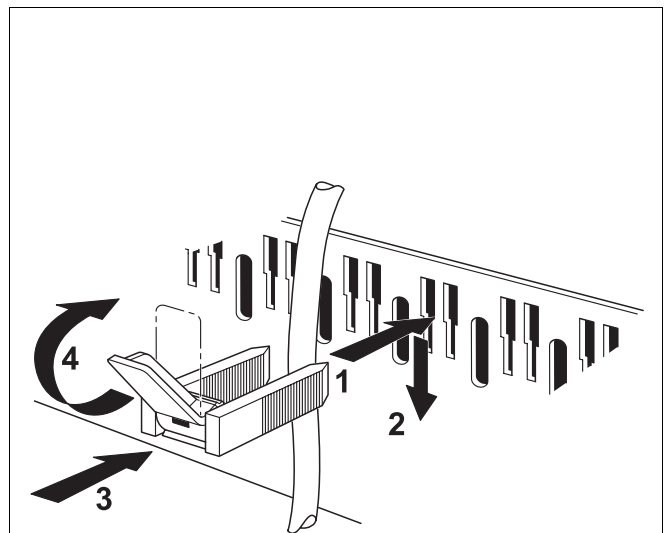

Fig. 18 Installation of the cable clips
If necessary, break or cut out the knock-out from the rear wall of the control panel (Fig. 18).
- Insert cable clips into the clip frame and secure by pivoting the lever (Fig. 18).
- Insert both lower hooks on the right and the left side of the rear wall section into the clip frame, keeping the slot in the upper edge (Fig. 18).
- Press both upper resilient sliding hooks slightly inwards (arrows on Fig. 18) and insert the rear wall section so that both hooks lock into place.